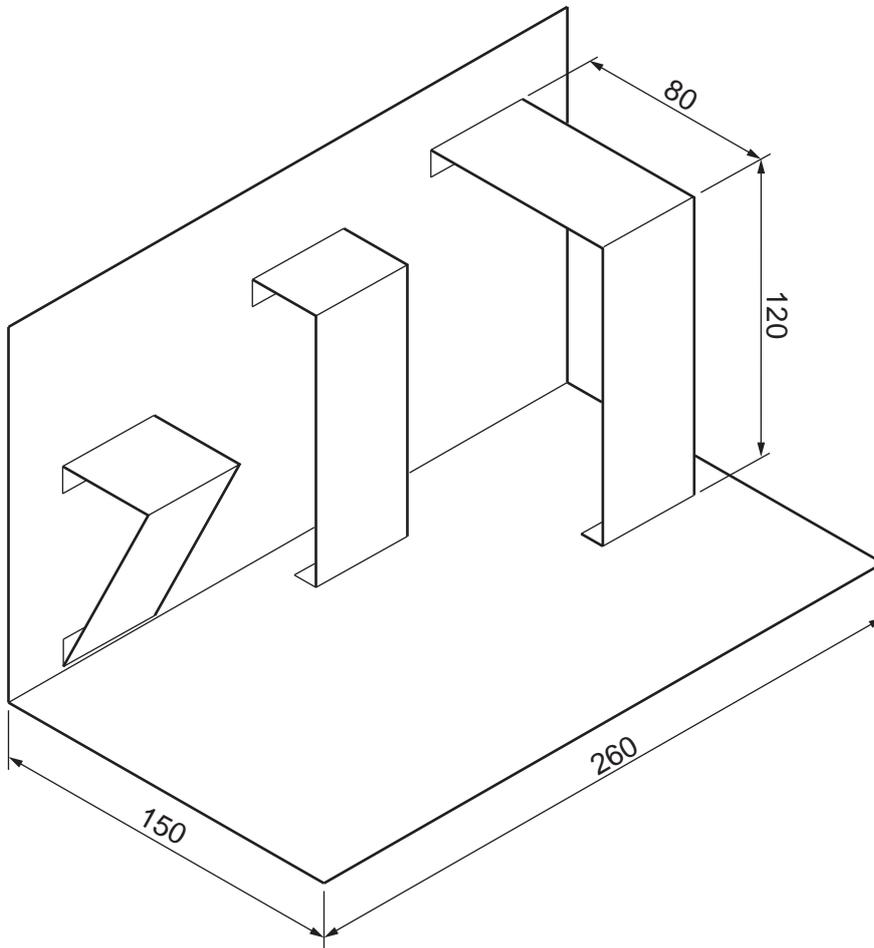

Fig. 4
- 4 Fig. 4 shows an incomplete design for a page in a child's pop-up book and a symbol that will be printed on the back of the book.